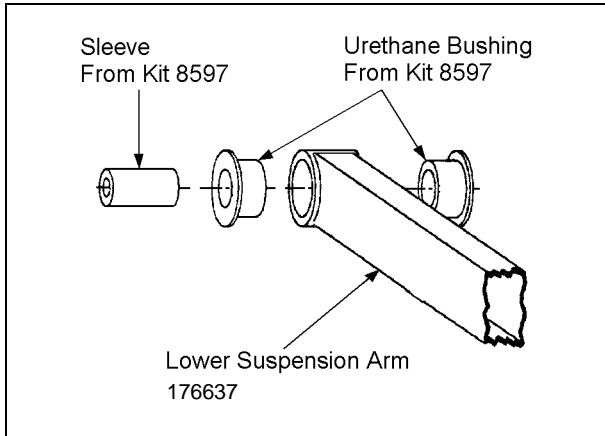

Figure 1
2. Press the bushings (Do Not Hammer) into one end of a new lower suspension arm. See Figure 1.